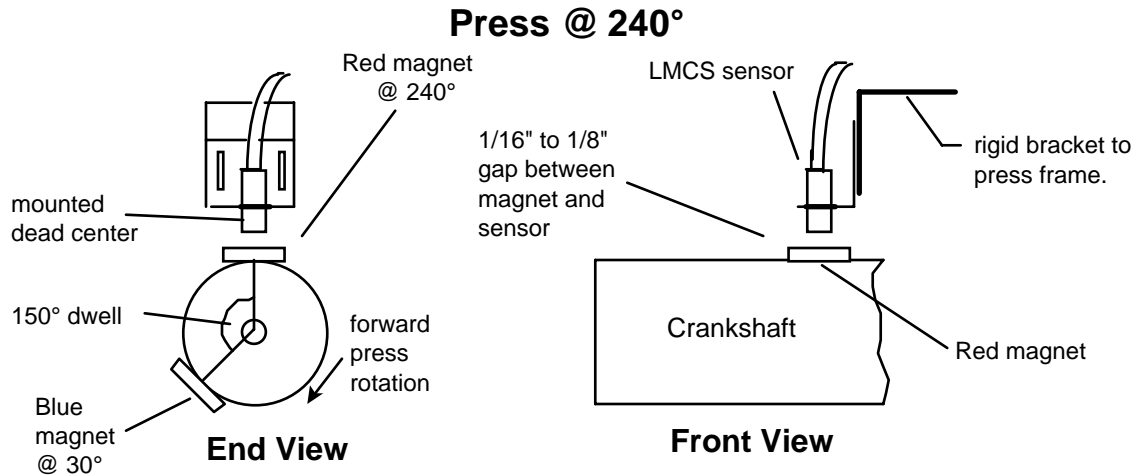

Figure 2-8. Installing the LMCS and magnets
2. Fabricate a bracket to position the LMCS 1/16" to 1/8" from the face of the magnets. If possible, make the bracket adjustable. To aid in mounting, the LMCS is supplied with a slotted mounting bracket. these slots are 1.5" apart, and approximately .1875" (3/16) wide by .75" long. Use size 6-32 hardware and lock washers. Install the LMCS as shown in Figure 2-8.